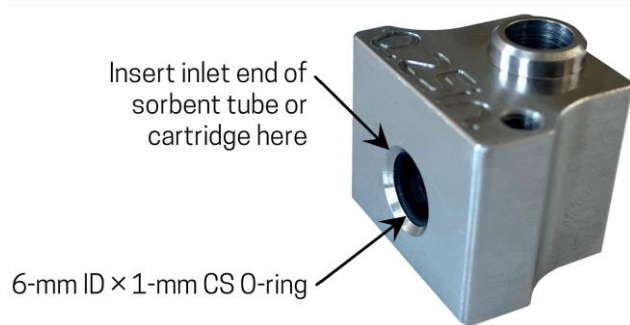

Figure 11. Sorbent inlet block.
- 3 Insert the inlet end of the sorbent tube or cartridge into the hole on the left side of the sorbent inlet block (see **Figure 2** and **Figure 11**).